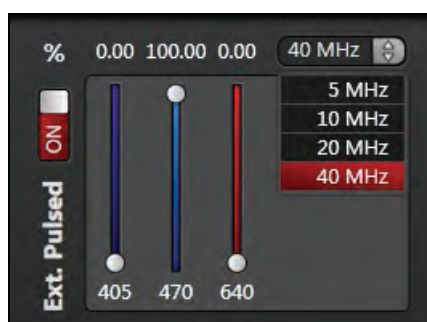

Figure 129: Beam Path Settings in LAS AF: Activating a pulsed diode laser and selecting the laser pulse rate.
2. In **Beam Path Settings**, in the area for controlling the pulsed lasers, select the desired frequency in the pull-down menu (**Figure 129**). The default setting is 40 MHz.